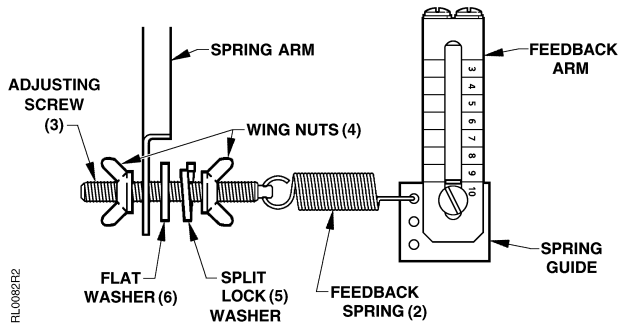

Figure 2. Attaching the Adjusting Screw to the Spring Arm.
6. Connect the feedback spring (2) between the spring guide and the adjusting screw (3). See *Figure 2*.
7. Thread one wing nut (4), the lock washer (5) and the flat washer (6) onto the adjusting screw. See *Figure 2*.